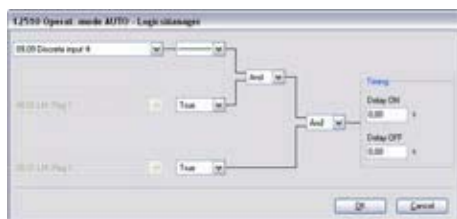

Fig. 156: LogicsManager function "Operat. mode AUTO"
- ➔ The LogicsManager function "Operat. mode AUTO" (parameter 12510 ↗ p. 253) can be configured as shown in (Fig. 156).